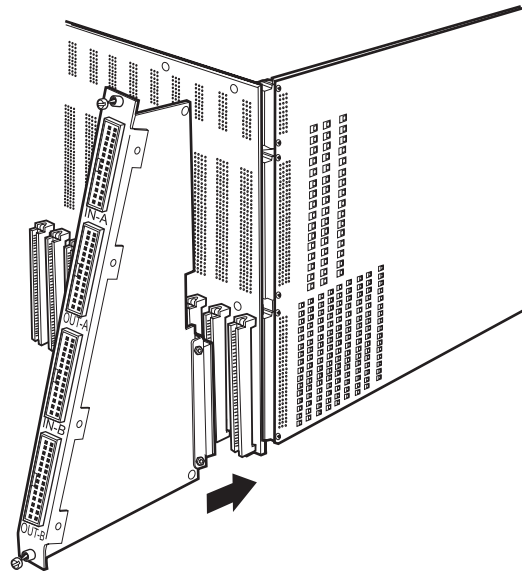

Figure 8. Insert a Rear Panel Video DFC Card (CM9780-DFC)
1. Slide the video DFC card into the card guides at the rear of the bay. From the rear of the bay, the slot at the far right provides the connection point for the video input card inserted in the front of the bay into slot 1. Refer to Figure 8.
1. Loosen the screws at the top and bottom of the DFC card. Refer to Figure 8.